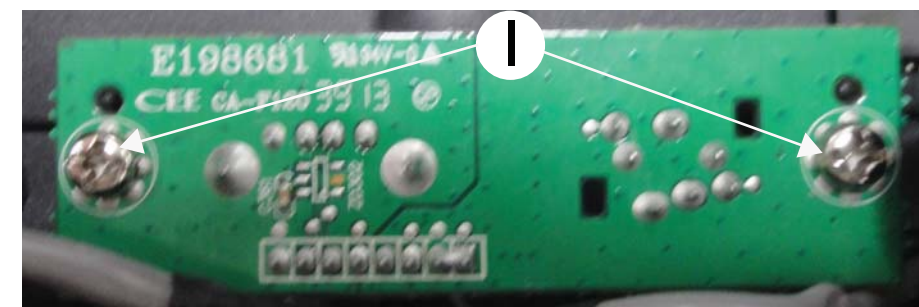

Figure 9
- 1) Loosen 2 screws "I" on the top of MP3&USB Board as shown in figure 9.